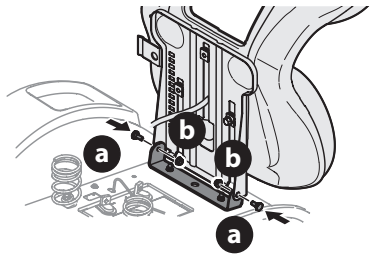

Figure 3
4. With the previously removed shoulder bolts (a) and flange lock nuts (b) secure one side of the seat and seat bracket. While supporting the seat, remove the Phillips screwdriver and secure the other side of the seat. Be careful not to crimp or damage the wire harness while installing the seat (Figure 3). Torque to 84-103 in-lbs (9-12 N-m).